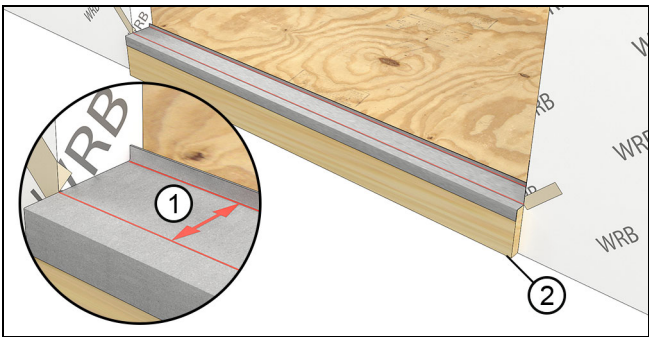
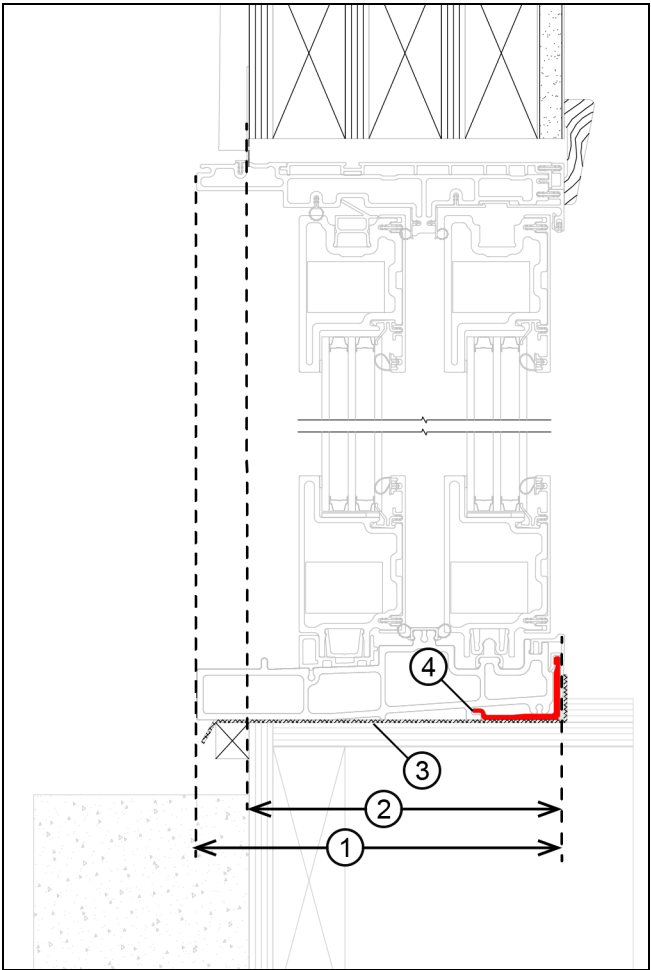

Figure 1
Figure 2
2. Determine the exterior plane of your door installation. You will fasten the aluminum sill support 6 15/32" (164) from the nail fin plane (in some instances, the exterior sheathing plane). Snap a line or use a laser level for reference while installing the sill support. If you are installing in a recessed opening measure back from the exterior plane of the door by 7 9/16" (192). See Figure 1 and Figure 2.